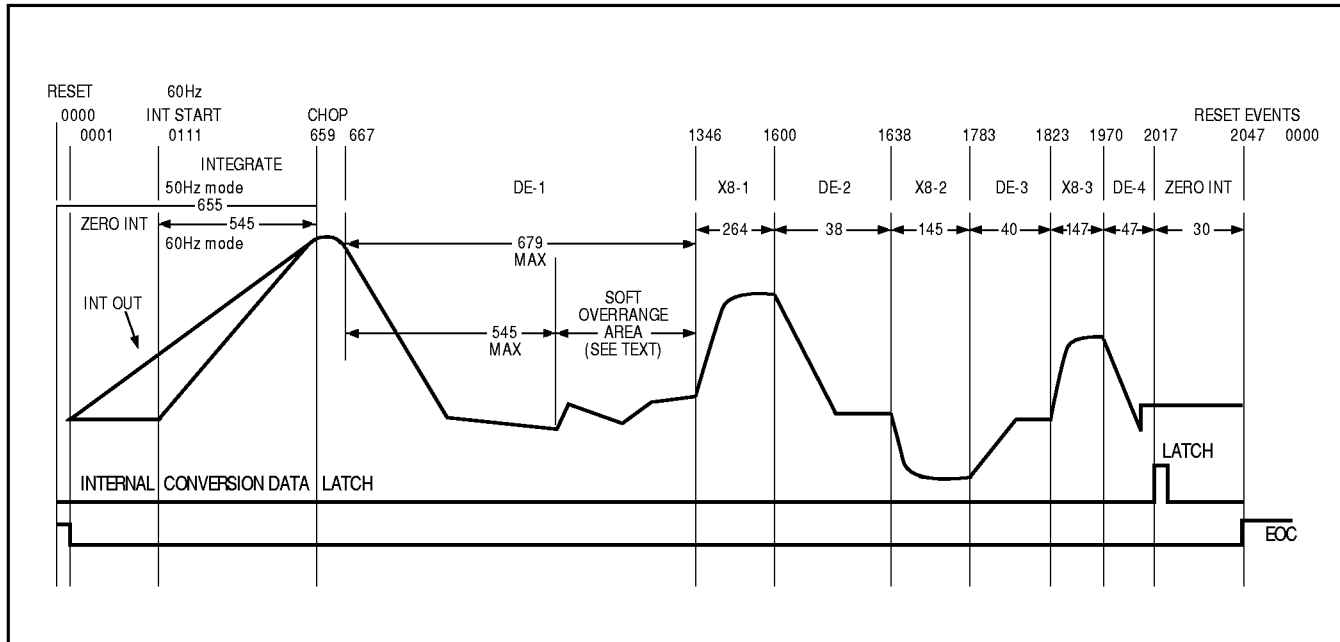

Figure 10. Conversion Timing (Negative Input Shown)
- 2) Poll either the EOC status register bit or the EOC line to determine conversion end and start time for the next conversion. EOC becomes 1 at conversion end at count 0000 of the conversion counter (Figure 10).
The MAX132 has two overrange levels (Figure 10 and Table 4). The first level is a soft overrange that is set by the user. Overrange is arbitrarily set at a value, preferably less than the 279,040 (including any zero offset) raw counts soft limit. A nonlinearity step of about 64 counts occurs at raw count 279,040 and again at 330,240 counts.
This process of measuring and accounting for the residue can be repeated for the successively smaller errors remaining after each deintegration. (Deintegration is simply an integration of V_{REF} , with polarity chosen so the integrator output ramps toward zero.) The MAX132, for example, executes three cycles in which the residue is inverted, multiplied by eight, and deintegrated (Figure 10).
The zero-integrate phase zeros out the integrator to prepare for the next integration (Figure 10). This phase occurs at the beginning and end of each conversion. At power-up, or in the hold mode prior to a conversion, the MAX132 continues to zero integrate until a conversion starts. When a conversion starts in 60Hz mode, another 111 clocks of zero integrate are completed before the beginning of a conversion. In 50Hz mode, only one additional zero integrate is performed before the conversion starts. An additional 20 clocks of zero integrate occur at each conversion end.